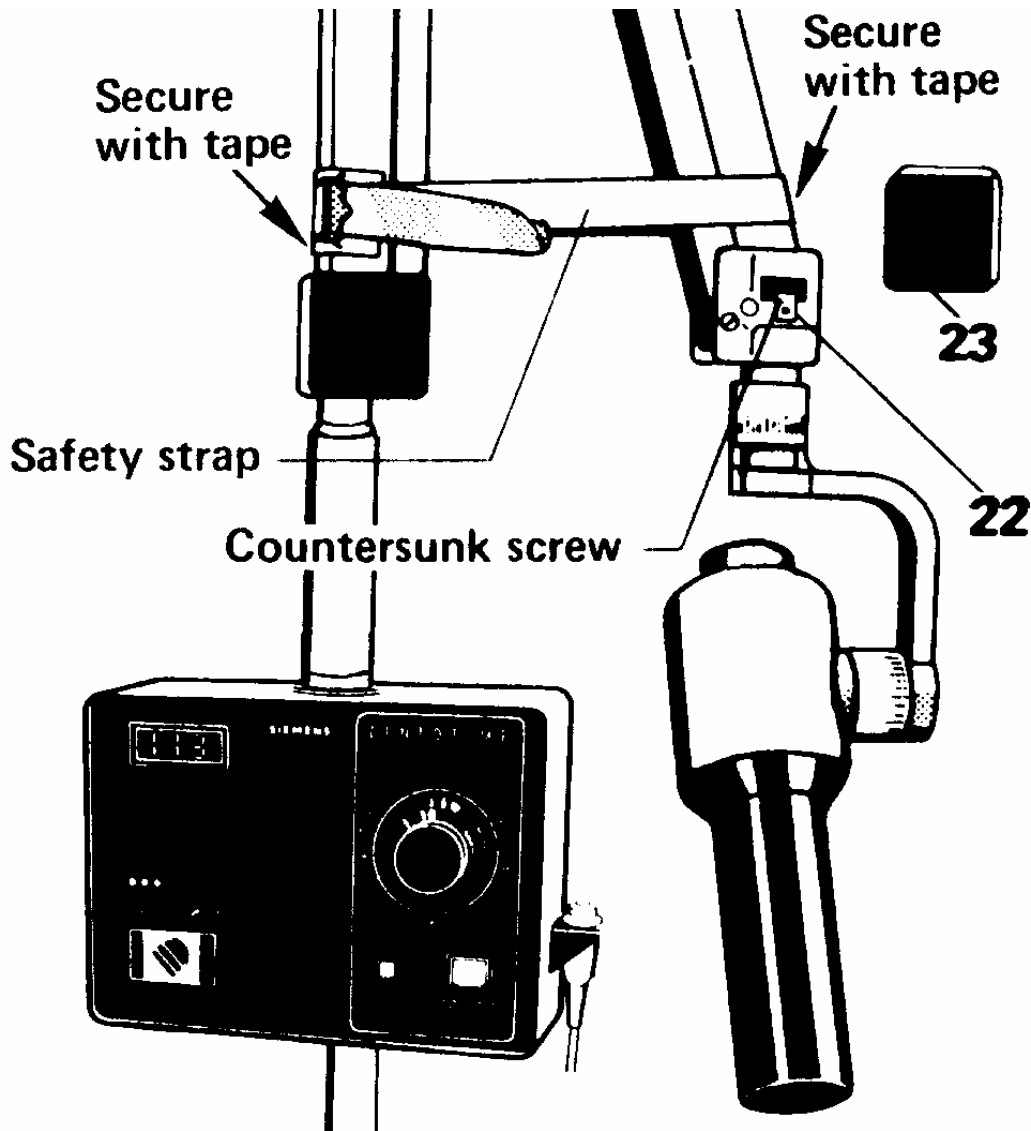
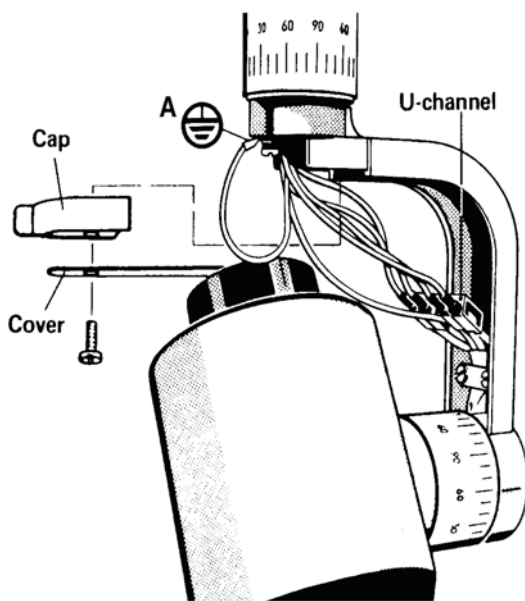
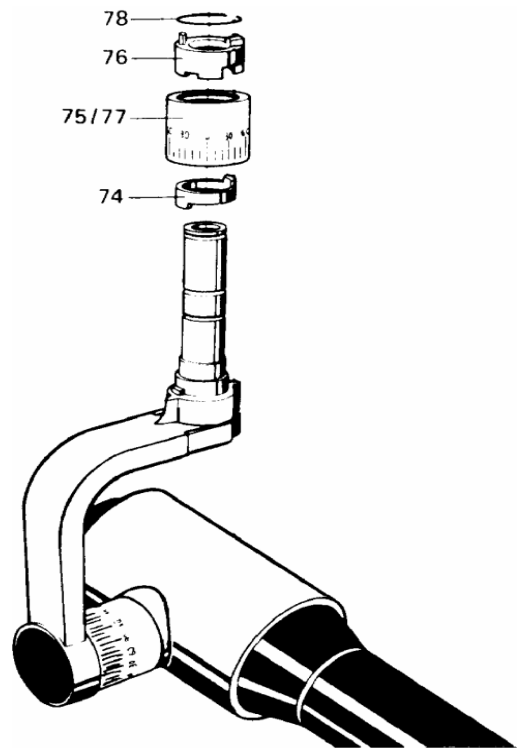

Figure 4-8. X-ray head removal, part one.
Figure 4-9. X-ray head removal, part two.
Figure 4-10. X-ray head removal, part three.
When the tube head rotation is less than 540° and you have isolated the malfunction to the rotational parts, you must inspect them. You do this by removing the X-ray head from the scissors arm as follows. Refer to figures 4-8 through 4-13.
a. **Secure the Safety Strap.** To facilitate the removal of the X-ray head, the scissors arm must be secured with the safety strap as shown in figure 4-8.
b. **Disassemble the Rotational Parts.** Refer to figure 4-9.
- (1) Remove the cap and cover.
- (2) Disconnect wires in the U-channel and ground wire (A). Refer to 4-9.
- (3) Remove the cover (23) shown in figure 4-8.
- (4) Remove the countersunk screw from the bracket (22) shown in figure 4-8.
- (5) Hold X-ray head at the yoke and remove the bracket (22). Remove the X-ray head.
- (6) Remove the clip ring (78) as shown in figure 4-10.
- (7) Check the rotational stop assembly (3 parts: 74, 75/77, 76) as shown in figure 4-10.
- (8) Replace parts as needed.